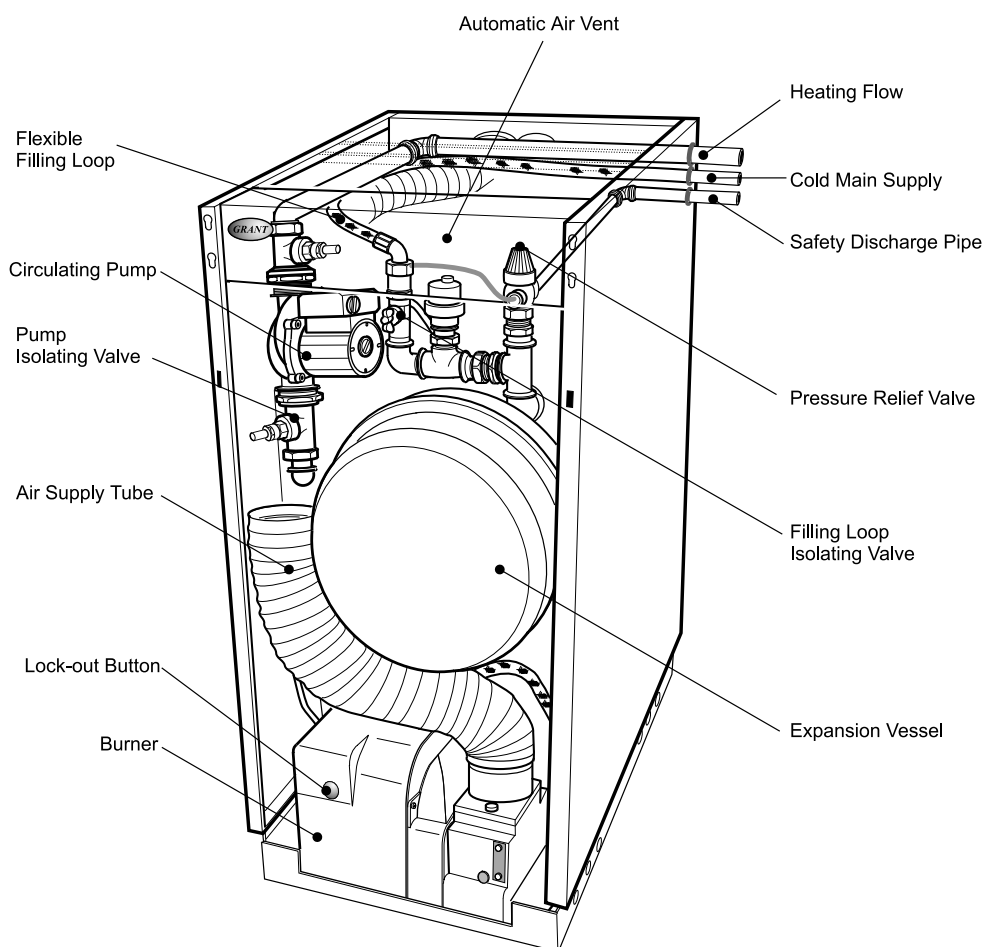

Fig. 30- System boiler components
- 1 An automatic air vent is fitted to the top of the boiler (see Fig. 30). Check that the small cap on the top of the air vent is screwed on fully, then unscrew it one complete turn - the cap remains in this position from now on.